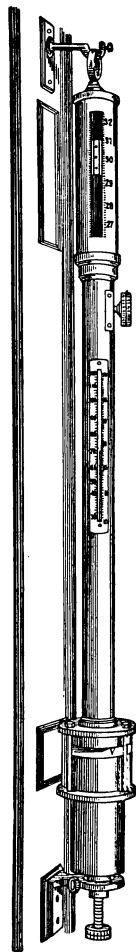

FIG. 33.—A standard barometer.
56. The Barometer.—The modern barometer (Fig. 33), consists of a Torricellian tube properly mounted. Reading a barometer consists in accurately reading the height of the mercury column.